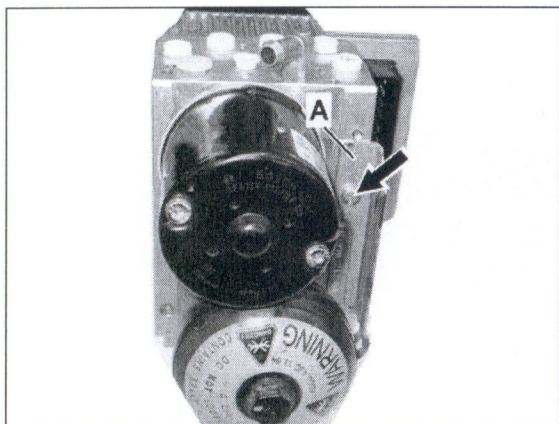
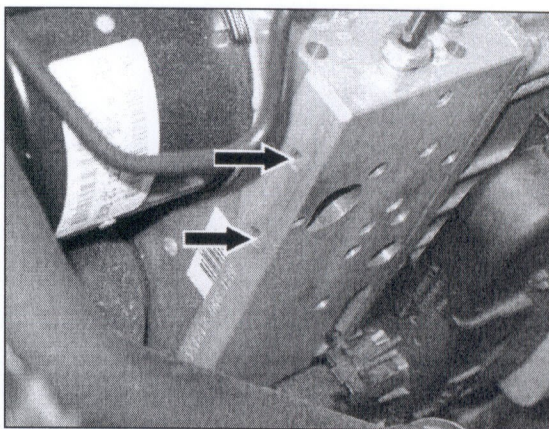
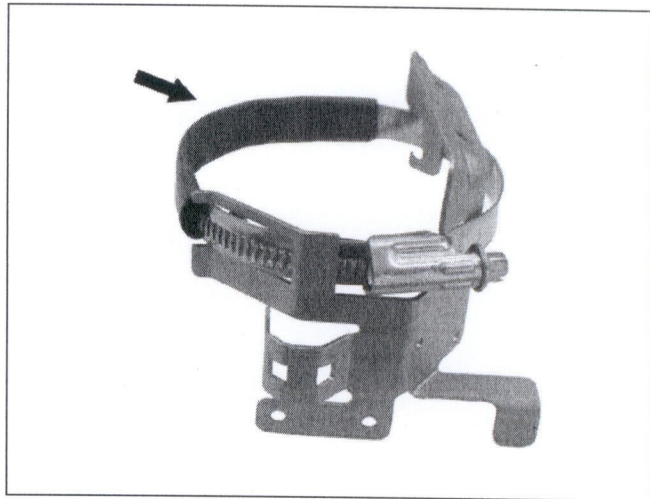

Figure 20
Figure 21
Figure 22
- Using hand tools, tap threads into SBC hydraulic unit bores (arrows, Figure 21) by running self tapping screw (arrow, Figure 20) into lower bore **without** mounting bracket positioned on SBC unit.
- In the event self tapping screw (arrow, Figure 20) is broken during installation of bracket (A) perform step 21 then continue with campaign (installation of bracket due to breakage of mounting screw will **not** be covered under warranty).
- Position bracket (A) on SBC hydraulic unit, reinstall self tapping screw (arrow) and **torque to 7 Nm**
21. Install clamp-on mounting bracket (Figure 22) if necessary due to broken self-tapping screw:
Ensure sheathing (arrow) on mounting bracket clamp is positioned as shown in Figure 22.